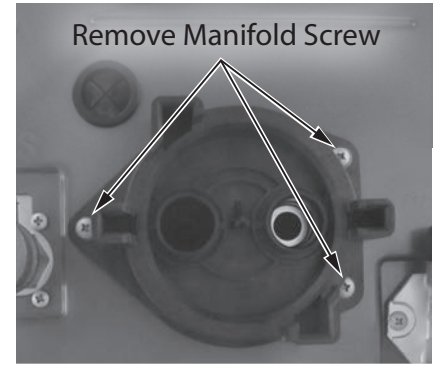

Figure 248 - Remove manifold screws
16 Locate the three (3) screws securing the cartridge manifold to the underside of the water heater cabinet as shown in Figure 248. Use a Phillips screwdriver to remove screws. Place screws aside in a safe place for reinstallation.